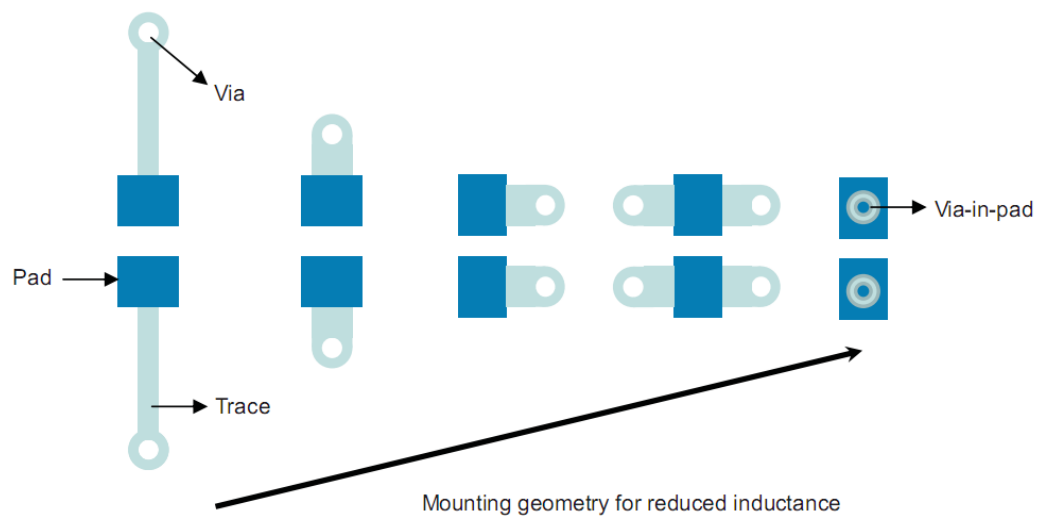

Figure 18. Capacitor Placement Geometry for Improved Mounting Inductance
- When a capacitor is mounted on a PCB, there is additional loop inductance associated with the capacitor mounting. The value of this loop inductance is design-dependent. Figure 18 shows the capacitor placement geometry for improved mounting inductance.
- As to figure 18, place the vias as close as possible to the capacitor. Minimize the via pitch between the power and ground vias. If possible, use multiple power/ground via pairs. If the PCB manufacturing processes allow and if cost-effective, via-in-pad (VIP) geometries are strongly recommended.